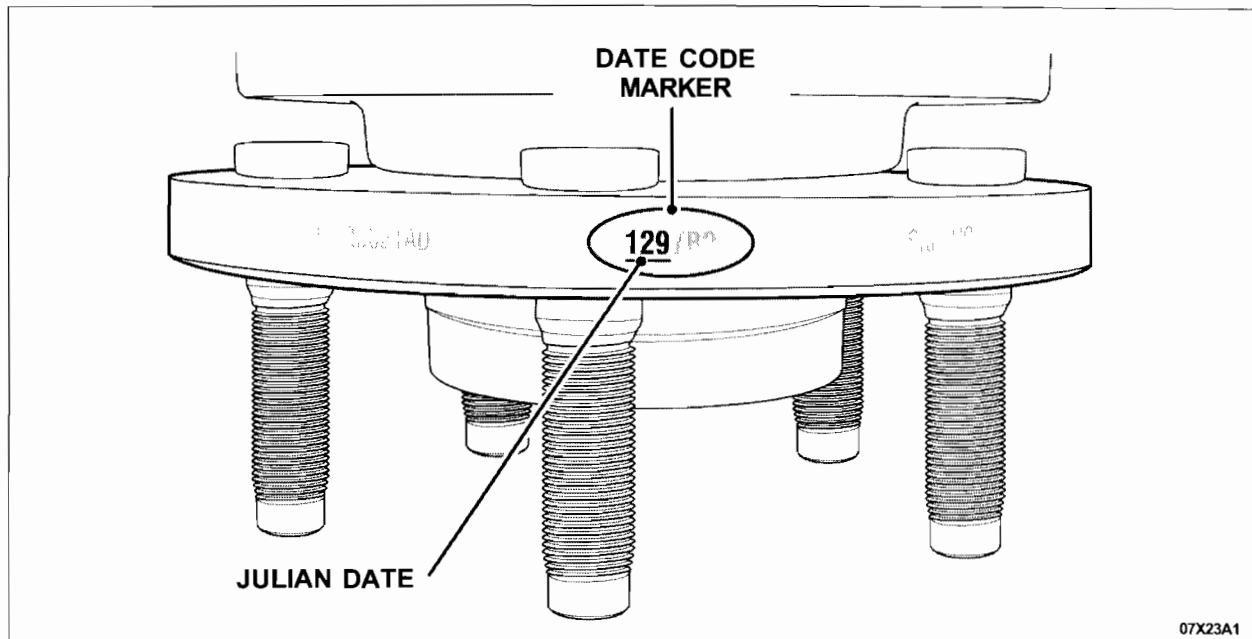

FIGURE 1
7. Inspect the wheel bearing hub assembly build date codes on the wheel bearing and hub assembly flange edge. See Figure 1.